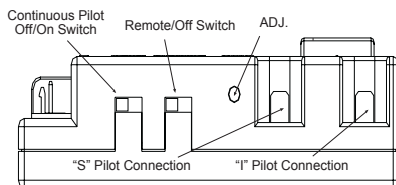

Figure 33 - Gas Module Right Side
1. There is a switch located on the right side of the module that reads CONTINUOUS PILOT ON/OFF. This switch selects the pilot's mode of operation (Figure 33).